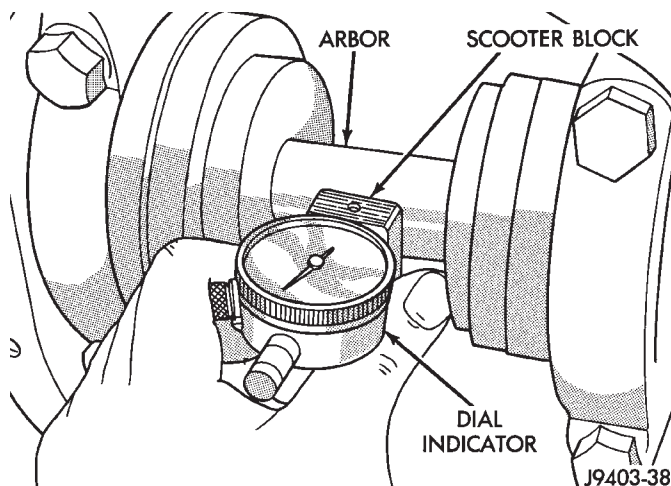

Fig. 62 Pinion Gear Depth Measurement—Typical
(5) Assemble Dial Indicator C-3339 into Scooter Block D-115-2 and secure set screw.
(6) Place Scooter Block/Dial Indicator in position in axle housing so dial probe and scooter block are flush against the rearward surface of the pinion height block. Hold scooter block in place and zero the dial indicator face to the pointer. Tighten dial indicator face lock screw.
(7) With scooter block still in position against the pinion height block, slowly slide the dial indicator probe over the edge of the pinion height block. Observe how many revolutions counterclockwise the dial pointer travels (approximately 0.125 in.) to the out-stop of the dial indicator.
(8) Slide the dial indicator probe across the gap between the pinion height block and the arbor bar with the scooter block against the pinion height block (Fig. 62). When the dial probe contacts the arbor bar, the dial pointer will turn clockwise. Bring dial pointer back to zero against the arbor bar, do not turn dial face. Continue moving the dial probe to the crest of the arbor bar and record the highest reading. If the dial indicator can not achieve the zero reading, the rear bearing cup or the pinion depth gauge set is not installed correctly.